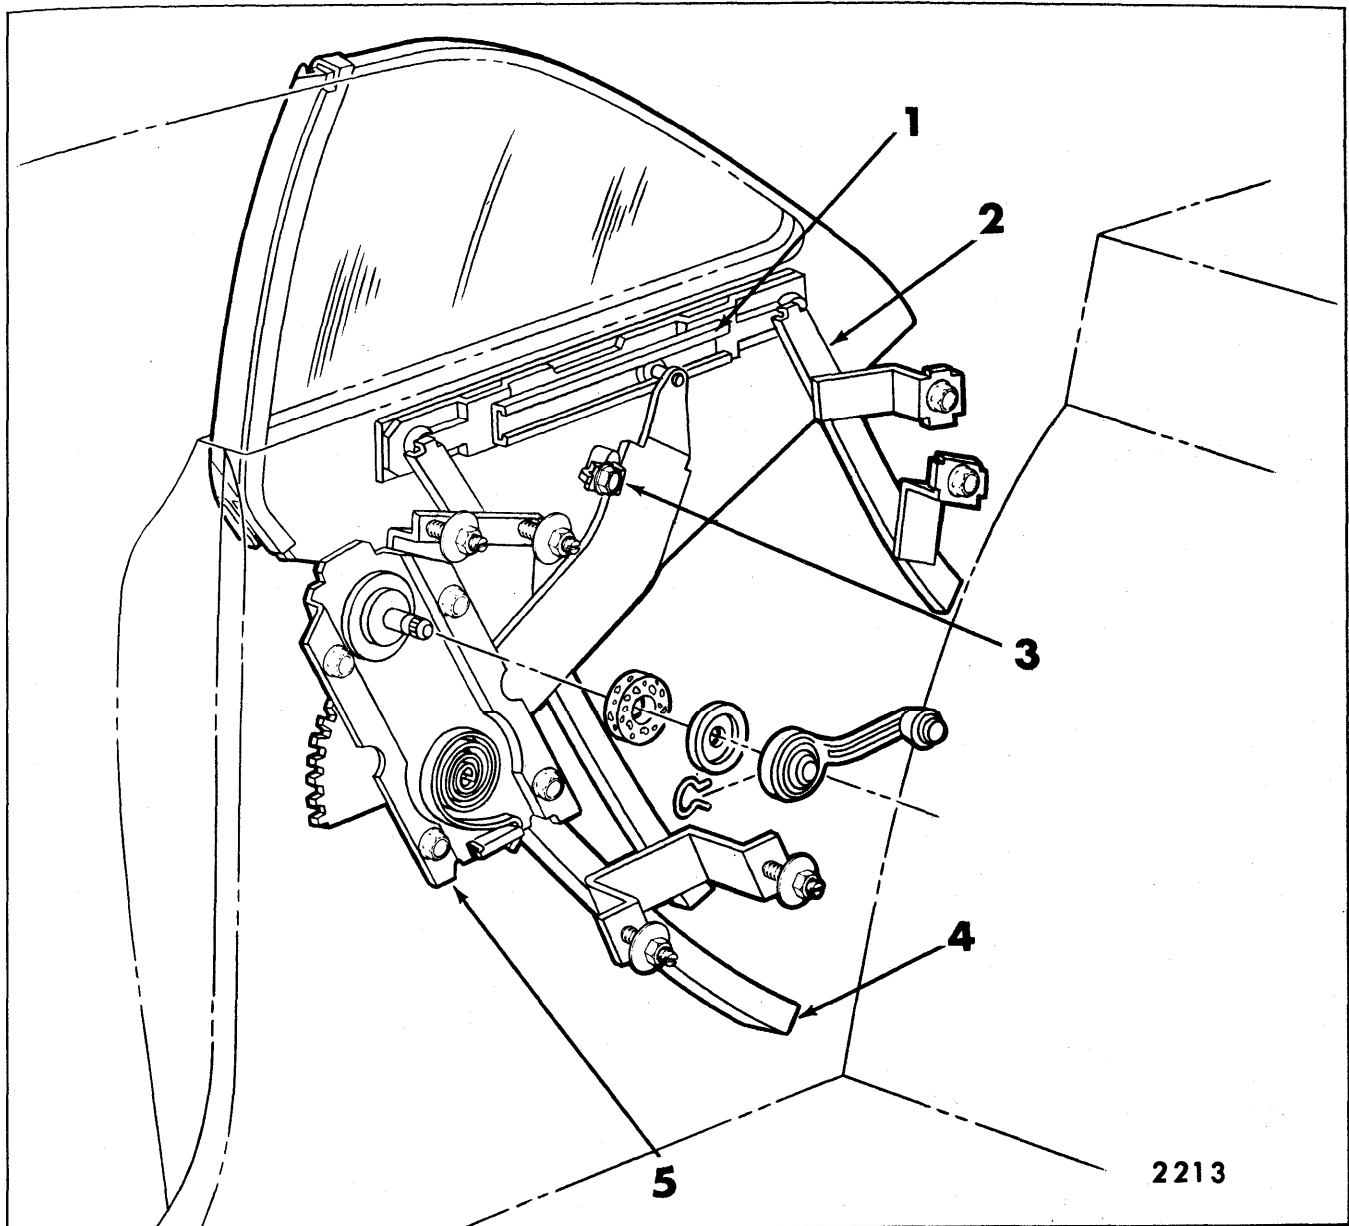

Fig. 8-36—Rear Quarter Hardware - "X-37" Styles
5. To limit up-travel of window, adjust window stop as required (see Fig. 8-36).